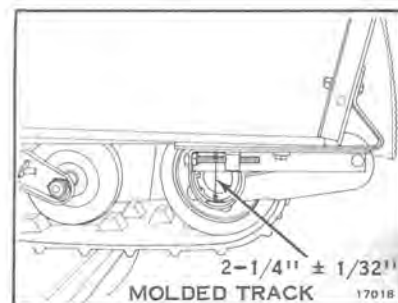

Figure 11-3
Track tension on molded track snowmobiles is correct when the distance from the bottom of the pivot arm bearing bore to the bottom of the adjusting bracket is $2\text{-}1/4'' \pm 1/32''$. See Figure 11-3.
- Adjust track so that the distances shown in Figures 11-3 and 11-4 are obtained.